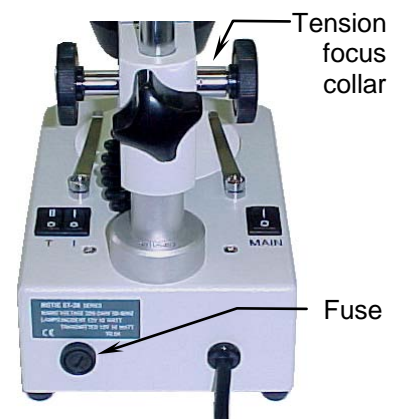

Fig. 5
- With a flat screwdriver, press lightly on the slot of the fuse cap (Fig.5) and turn 1/4 turn as indicated by the arrow.
The tension adjustment collar for focussing (Fig.5) is situated between the focussing knob (13) and the head holder (11).